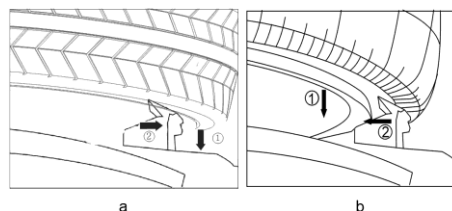

Fig. 16
①Option 1: Internal rim clamping(Fig. 16-a), press the pedal B to make the wedges close up, place the rim on the working plate and clamp it.
②Option 1: External rim clamping (Fig. 16-b) , make the wedges apart with the pedal B, place the wheel and locked it.